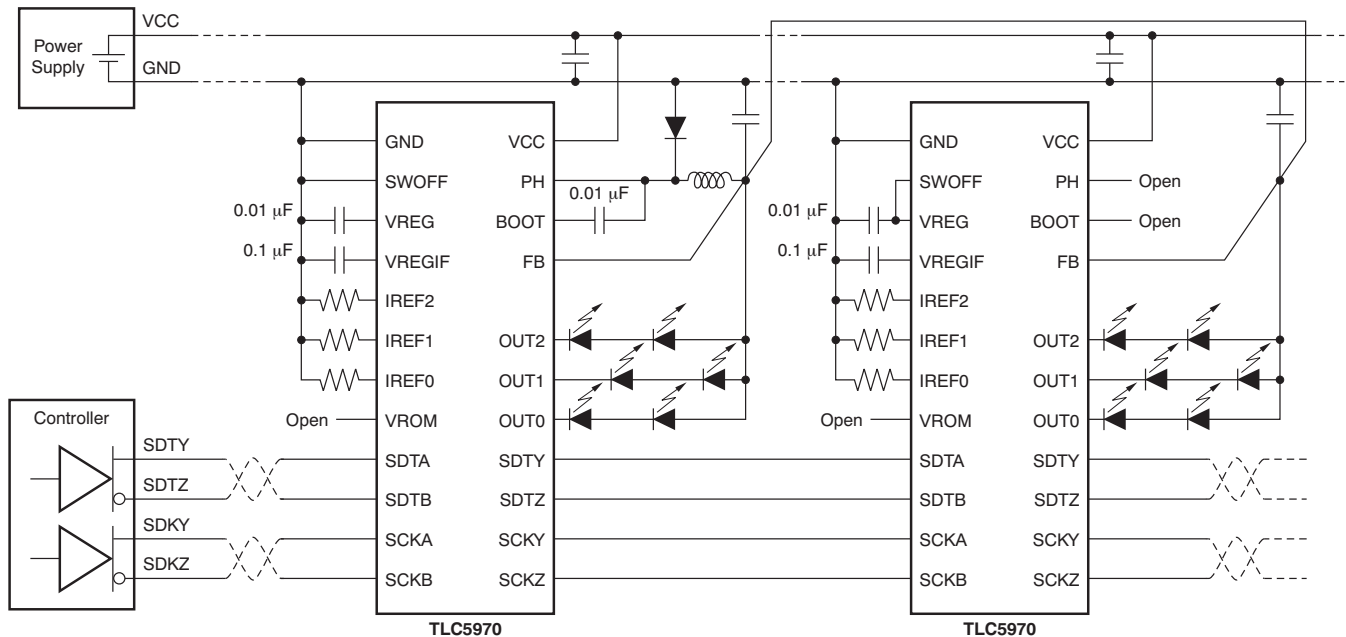

Figure 38. Master/Slave Operating Mode
The TLC5970 can be used to drive several LED lamps for small-current LEDs with the master-slave operation mode (Figure 38). In this operating mode, BC data and DC data in the master device should not be set to '0' to hold the LED anode (FB) voltage.